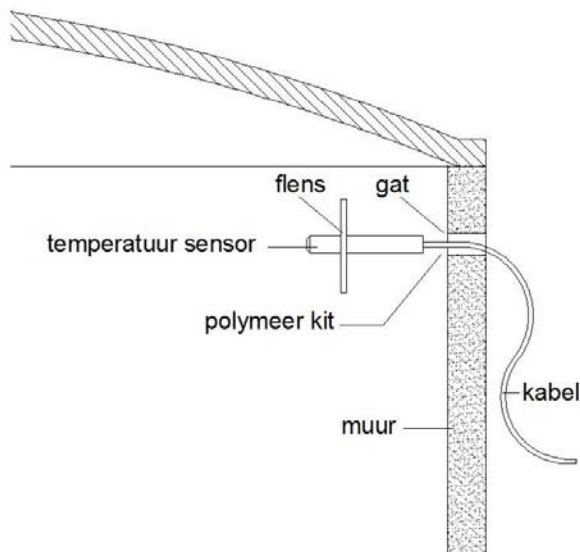

fig. 1
- If the ProSteam steam generator is in the adjacent room; drill a hole Ø20 mm in the wall (fig. 1). Glue the flange to the wall with acid free silicon mastic.